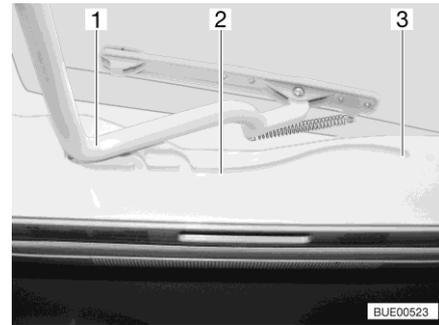

Fig. 121 Guide (Heki skylight)
- Pull the bar (Fig. 121,1) in the guides (Fig. 121,2) to the rearmost position (Fig. 121,3).
- Use both hands to push the bar (Fig. 121,1) slightly upwards.
- Pull the bar in the guides (Fig. 121,2) to the desired position.